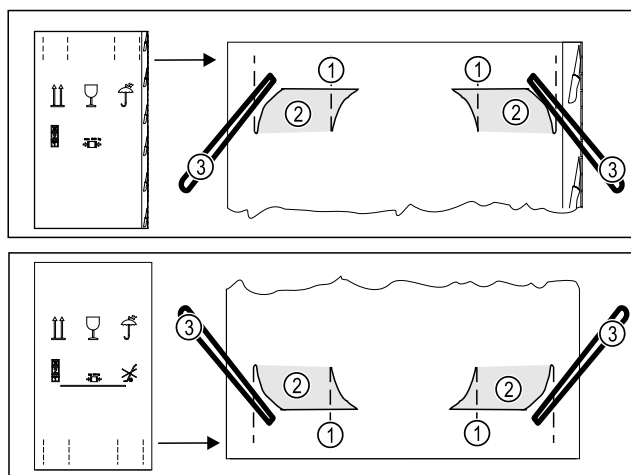

Fig. 5
- ▶ Press in the packaging carton at the top and bottom of the perforation Fig. 5 (1).
- ▶ Pull out the pressed-in flaps Fig. 5 (2).
- ▶ The carrying straps Fig. 5 (3) are visible.
- ▶ Pull out all four carrying straps Fig. 5 (3).
- ▶ Hold the appliance by all four carrying straps Fig. 5 (3).